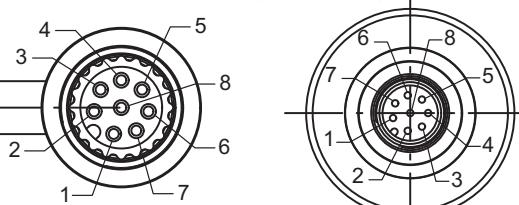

Fig. 1: M12 connector for sensor, PAD4001A/4003A (left) and PAD4002A (right)
- Connect sensor at M12 connector (fig. 1) according to table 1 (input side)